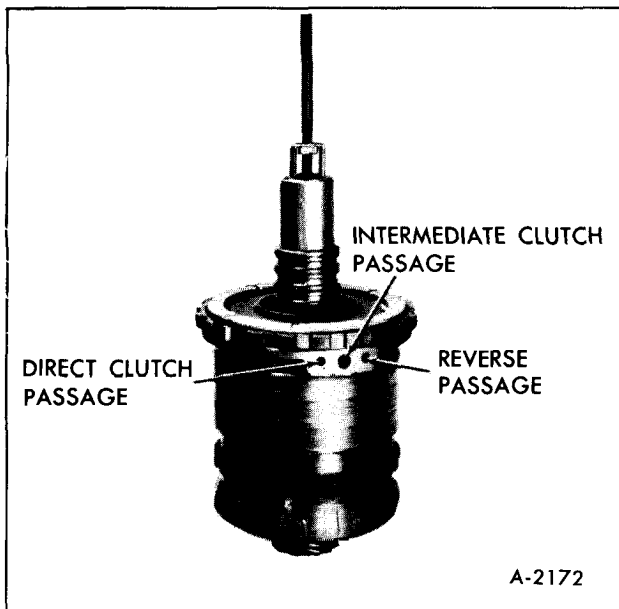

Figure 55—Gear Unit on Bench
8. Place gear unit assembly on bench with output flange down, Figure 55. Remove Tool J-21795.